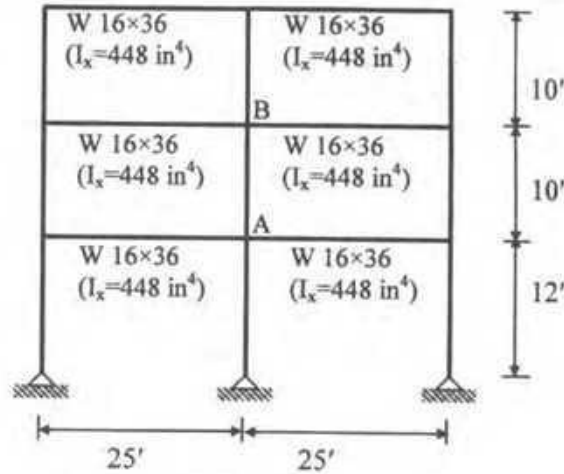

Fig. 4
b) Design the lightest W14 section ( $F_y=50$  ksi) for Column AB as shown in Fig. 4. Use AISC/LRFD method of design. [18]